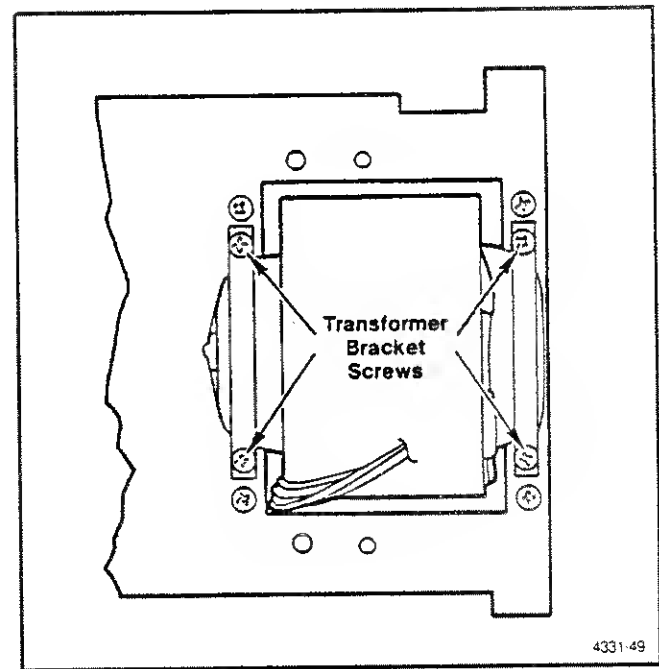

Fig. 7-5. Transformer and bracket (partial pictorial).
- c. Remove the stand-off hex screws (4).
- f. Remove the power transistor connectors (2). Note their locations, for re-assembly; the front cable connects to the front transistor.
- e. Remove the transformer bracket screws (4), as shown in Fig. 7-5.